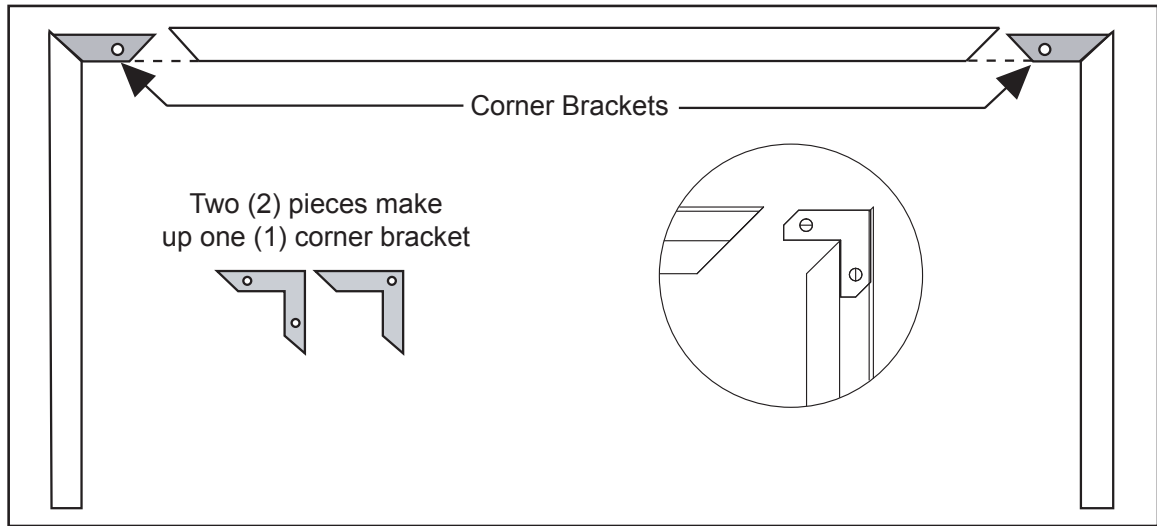

Figure 34: Assembling Trim for Surround Panel.
1. Assemble the trim set using the corner hardware and screws supplied in the surround panel packaging. Install corner hardware into the side trim pieces, then push them into the top trim. Do not over-tighten the corners or the side trim cannot be removed during servicing. See Figure 34.